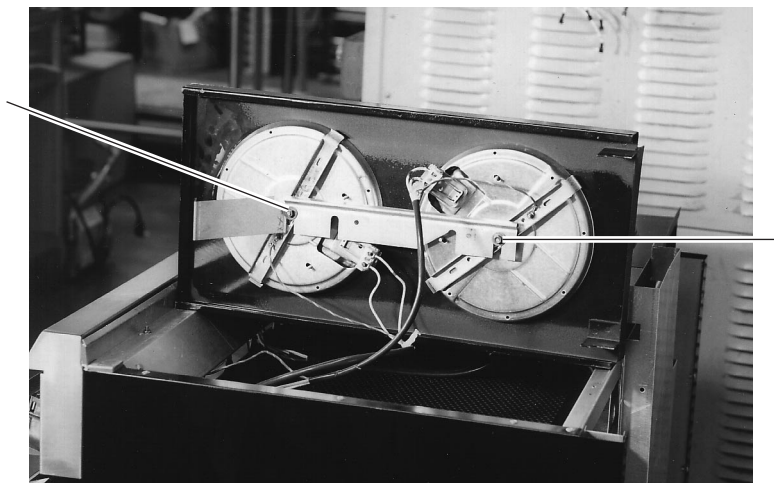

Fig. 21
5. Lift up on the aeration plate, push plate towards the rear of the unit, then lift plate assembly out and flip it over. (Fig. 21)
6. Using a $\frac{5}{16}$ " socket, remove (2) bolts holding the mounting bracket to the french plate assemblies. (Fig. 21)
(See Fig. 21)